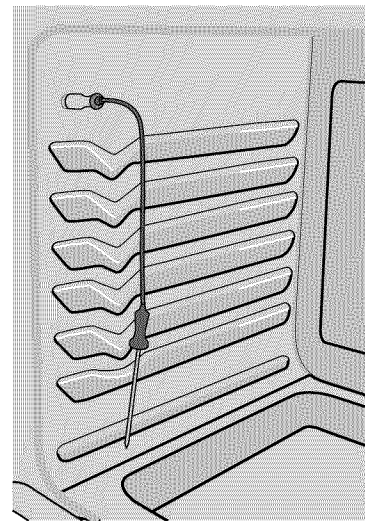

Fig. 2
2. Plug the probe **COMPLETELY** into the probe receptacle inside the oven -p. 30, Fig. 2- and close the oven door.